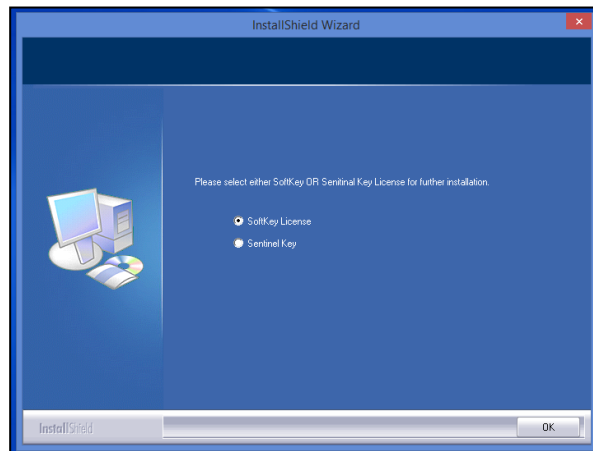

Figure 10. Software Key License
- a. If the user has a HunterLab USB hardware key, then it can be used with a new sensor on the same computer. Return to **INSTALL THE SOFTWARE**, Step 5 (Figure 10) and select **SENTINEL KEY** to continue.